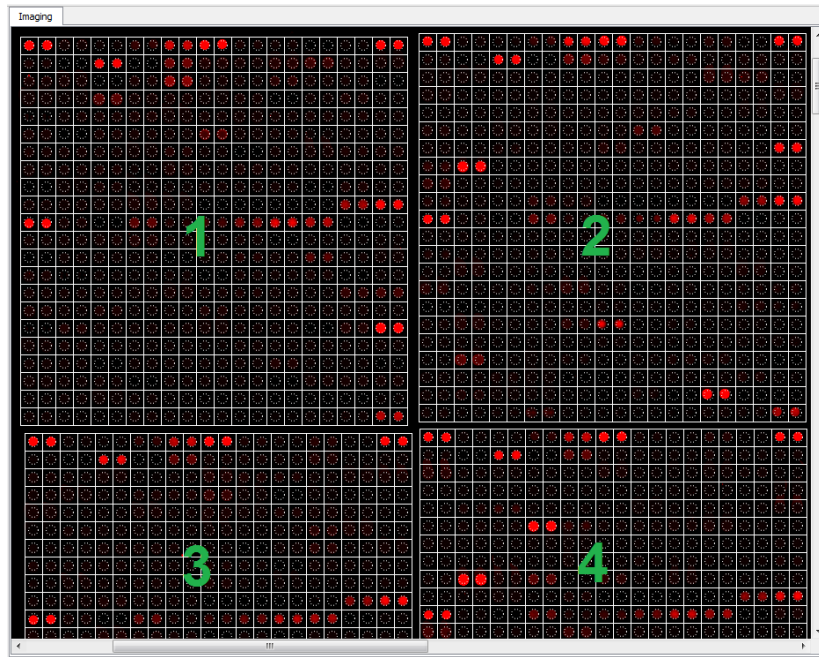

Figure 21. Offset of Blocks.
Normally, adjacent blocks should have approximately the same horizontal (X) or vertical (Y) position. Printed blocks, however, may be offset from their planned positions. Figure 21 illustrates horizontal and vertical offsets among four blocks.
- **Left-most Blocks:** Maximum difference in X-position between left-most blocks, such as blocks 1 and 3 in Figure 21.